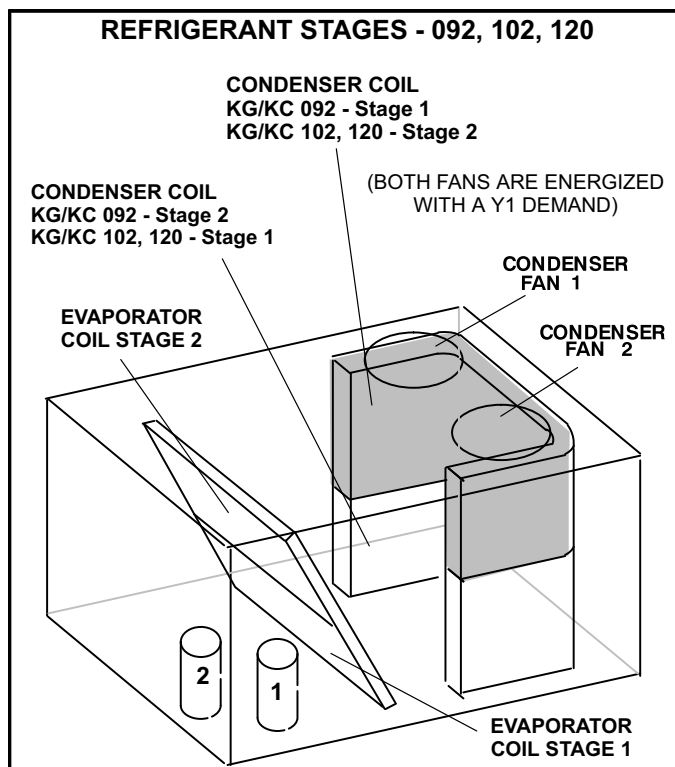

FIGURE 20
- 3- Units contain two refrigerant circuits or stages. See figure 20 or 21.